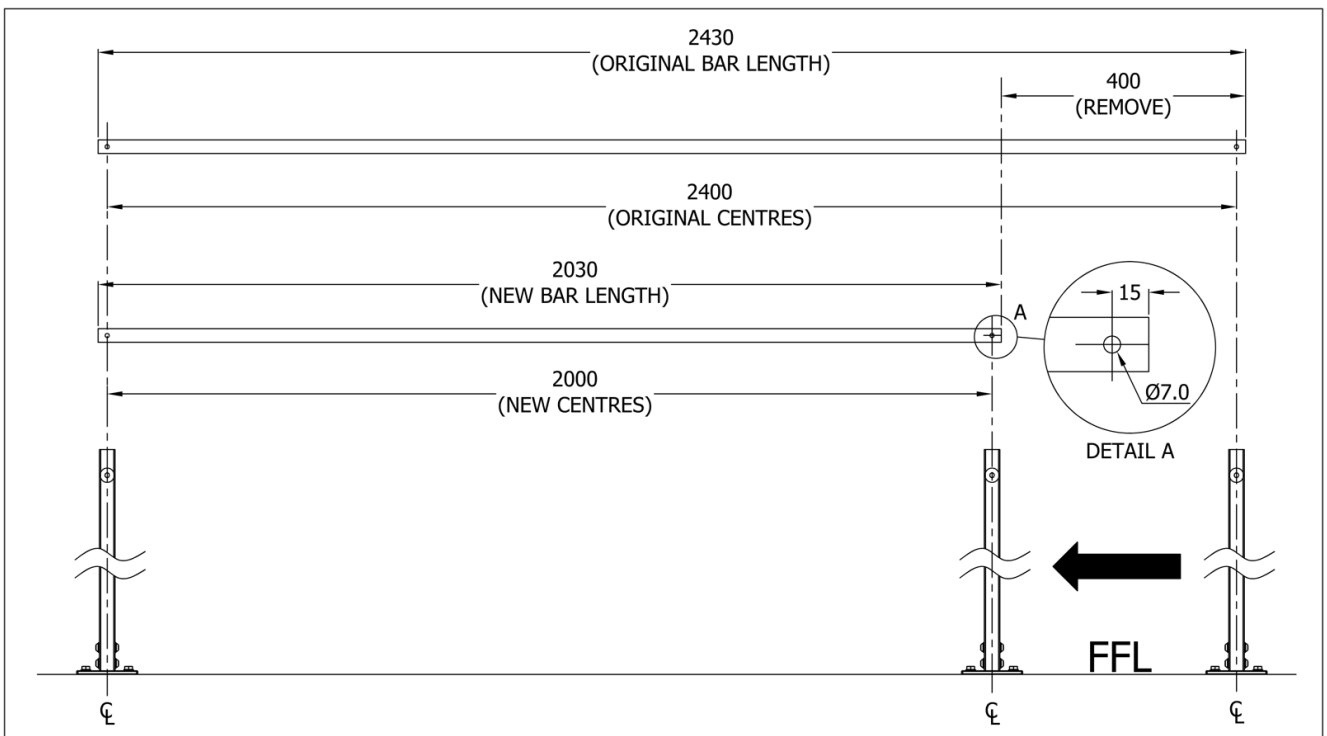

Fig 3. Reducing the width of your 1.3m or 2.4m GMK.
2. Using a hacksaw or angle grinder remove 400mm from the rear bar. (Fig 3).
3. Drill a new Ø7.0mm mounting hole 15mm in from the end. (Fig 3 – Detail A).